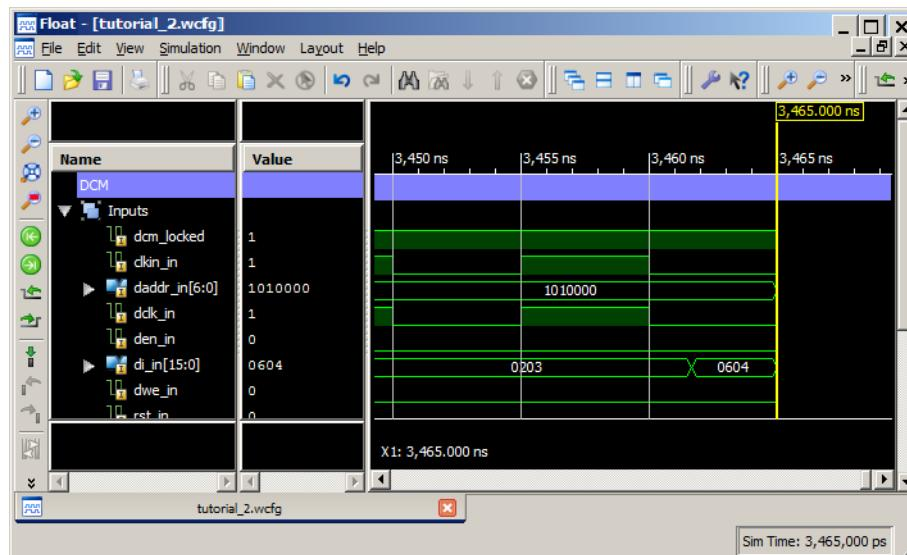

Figure 3-38: Wave Window: Analyzing Output of DCM DI\_IN Input Bus
3. Right-click anywhere on the executable line and select **Toggle Breakpoint** to add the breakpoint (see Figure 3-38).
4. Continue stepping through the simulation until the `di_in` bus signal is updated with a new value (you might need to zoom in to observe the change). At around 3,465 ns, the bus should be updated from 0203h to 0604h (see Figure 3-38).